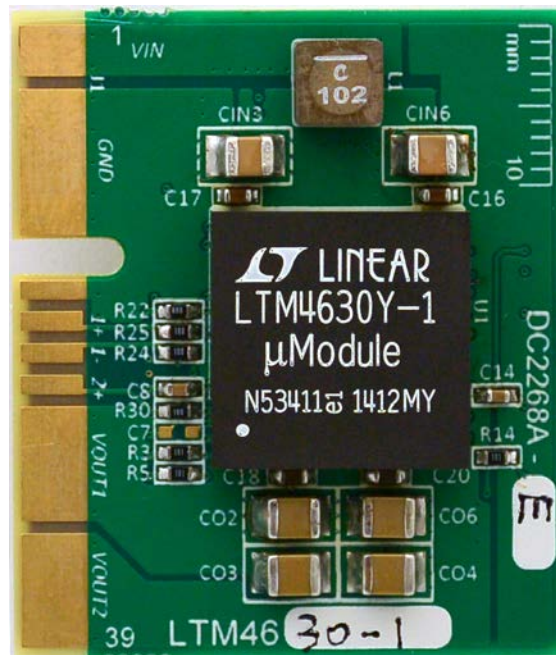

Figure 1. LTM4630-1/DC2268A-E Demo Board
2. With power off, connect the input power supply, load and meters as shown in Figure 1. Preset the load to 0A and V_{IN} supply to 12V.